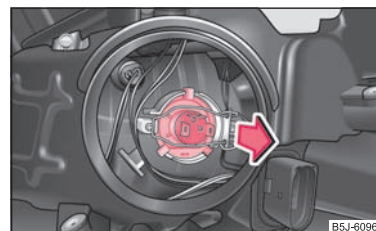

Fig. 168 Removing the light bulb for the low beam and main beam light
- Pull off the connector from the lamp, release the sprung wire clamp and pull out the lamp towards the rear ⇒ fig. 168.